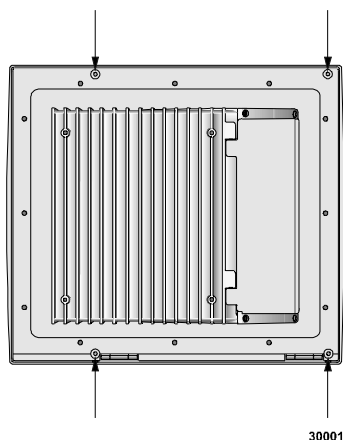

Figure 13: Location of optional security screws
- If your unit has security screws on the back of the bezel, remove them with a security screwdriver (the locations of the security screws are shown in Figure 13).